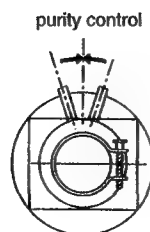

Fig. 2
- 2) Loosen the deflection yoke mounting screw, and set the purity control to the center as shown in Fig.2
- 5) Move the deflection yoke forward, and adjust so that the entire screen becomes green. (Fig. 2)